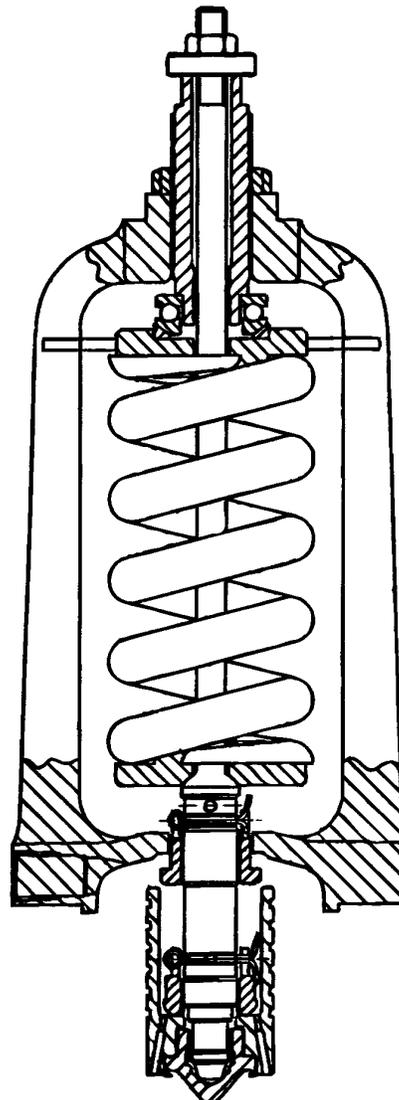

FIGURE 7
3. Remove yoke and spring assembly, (See Fig. 7), from base, being careful not to damage the disc.
8. Reassemble yoke and spring assembly (See Fig. 7) into base, being careful not to damage the disc. Locate the yoke vent to the side of the valve. The lug on the top spring washer should be on the right side of the valve when facing the outlet.
3. Remove yoke and spring assembly, (See Fig. 7), from base.
8. Reassemble yoke and spring assembly (See Fig. 7) into base being careful not to damage the disc. Locate the yoke vent to the side of the valve. The lug on the top spring washer should be on the right side of the valve when facing the outlet.